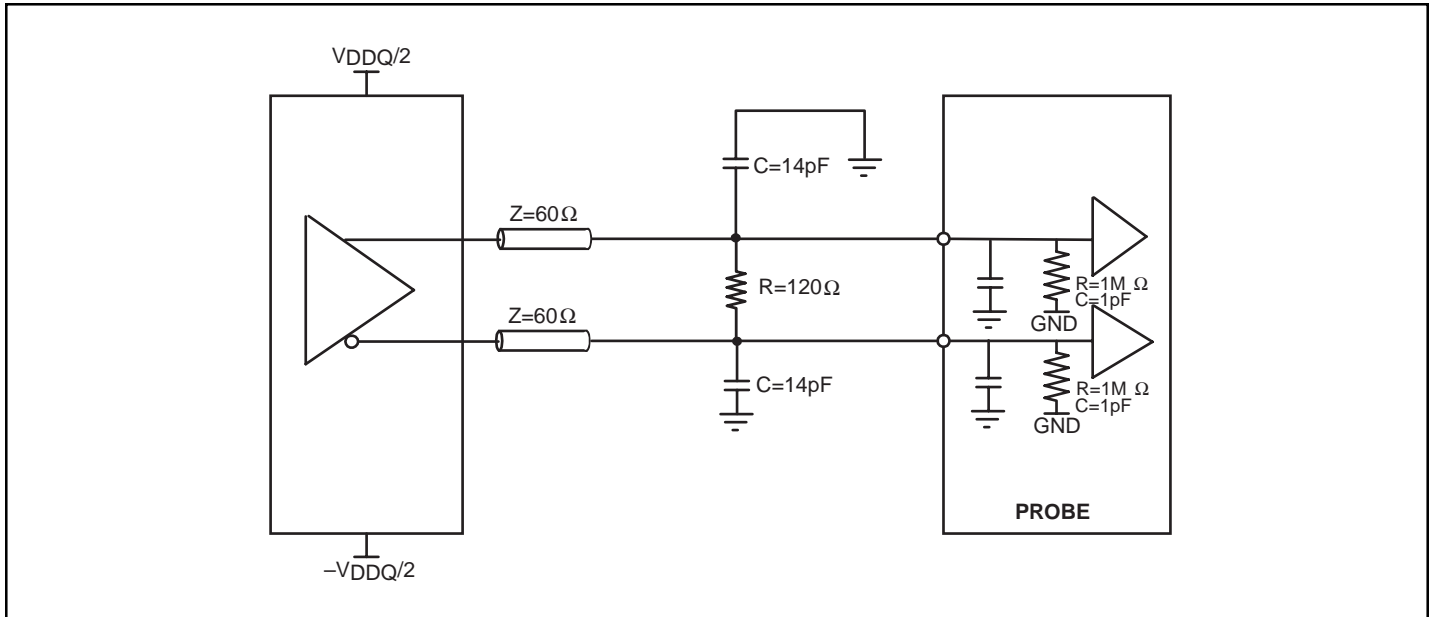

Figure 2. Output Load Test Circuit
2. All AC parameters are measured using test load shown in Figure2.